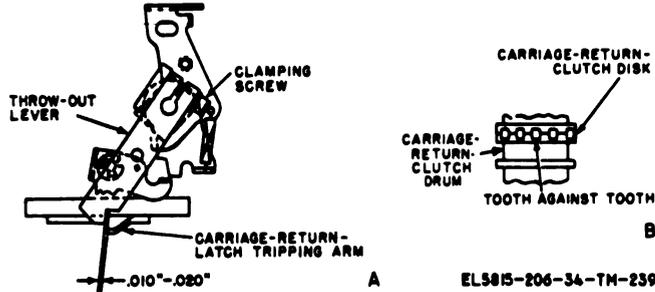

Figure 3-167. Throw-out lever adjustment (TT-4B/TG, TT-4C/TG, TT-336/TG, TT-537/G, TT-698A/TG, and TT-698B/TG).
c. Adjustment. Loosen the clamping screw in the throw-out lever (fig. 3-167). Position the decelerating cam and the carriage-feed clutch (fig. 3-154). Loosen the two clamping screws (B, fig. 3-155) and position the carriage-return latch-tripping arm flush with the carriage-return latch when the latch is flush with the carriage-return clutch-actuating lever (A, fig. 3-155). Tighten one of the clamping screws and recheck the requirement (a above). If the carriage-return latch is tripped too soon, position the latch-tripping arm clockwise. If the latch is tripped too late, position the latch-tripping arm coun-
a. Requirement. There should be 0.010- to 0.020-inch clearance between the throw-out lever and the carriage-return latch-tripping arm (A, fig. 3-167) when the carriage is in the left-hand margin position.
meets against tooth) (B, fig. 3-167). If the clutch teeth start to engage, hold the carriage-return-clutch drum out of engagement; continue turning the motor until the teeth are in line; and release the clutch drum. Use a feeler gage to check the requirement (a above).